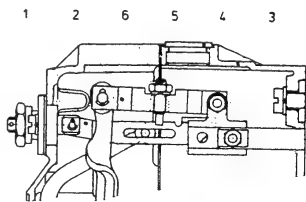

Fig. 2 New model
On the above-mentioned mechanical governors an adjustable link fork has been incorporated for some time (fig. 2). This governor unit is identifiable by the screw plug on top of the governor housing (item 4, fig. 2).
The new stop strap is now combined with the full-load stop to form one unit. Adjustment of the unlocking speed is made by means of the adjusting screw, accessible through a hole, $M 22 \times 1.5$, in the governor housing (item 6, fig. 2). This hole is sealed by means of screw plug 1 423 462 099 (item 4).
To avoid damage to the adjusting screw (item 6, fig. 2) it was necessary to recess the governor housing and governor cover (fig. 2). This necessitates a new seal between governor housing and governor cover (item 5, fig. 2). The new seal can also be used with the old governor housing, but the old seals cannot be used with the new housings. Old link forks and stop straps can be used with new governor housings and covers, but new link forks and stop straps cannot be installed in old governor housings and covers.